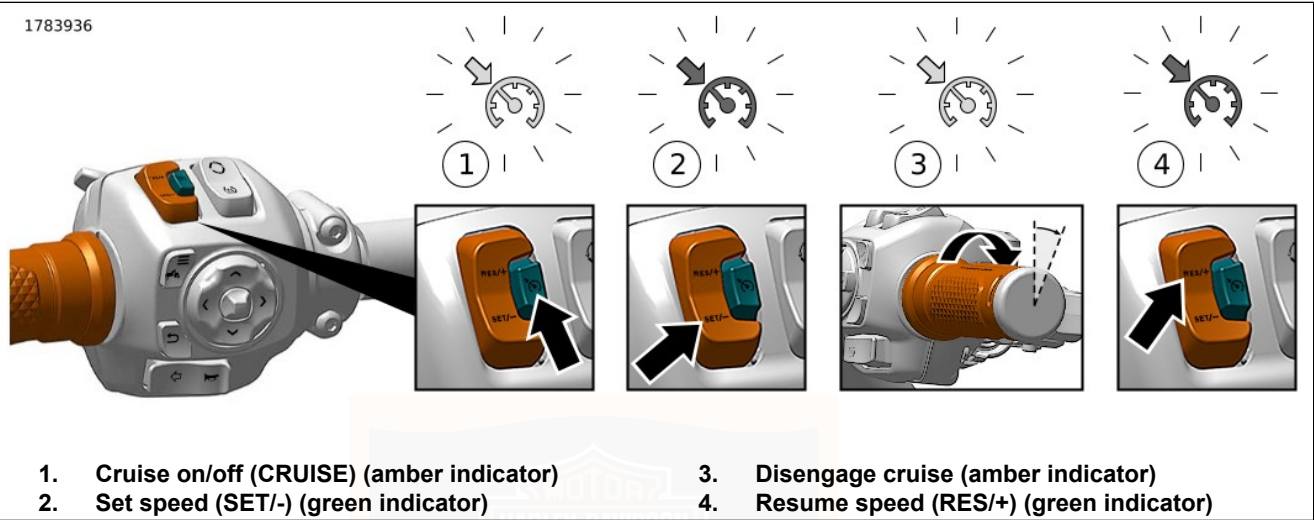

Figure 51. Cruise Control (typical)
See Figure 51. Press the CRUISE switch to turn on cruise (1). When on, the cruise icon in the speedometer face glows amber.
See Figure 51. When the motorcycle reaches your intended speed, press the SET/- switch to set the cruise speed (2). The amber cruise icon changes to green and will display set speed.
See Figure 51. To drop out of cruise speed, roll the throttle closed through the roll-off switch (3).
See Figure 51. If cruise has been disengaged yet the cruise indicator is amber, pressing the RES/+ switch resumes cruise (4). The icon glows green. The motorcycle automatically resumes cruise at the set speed.